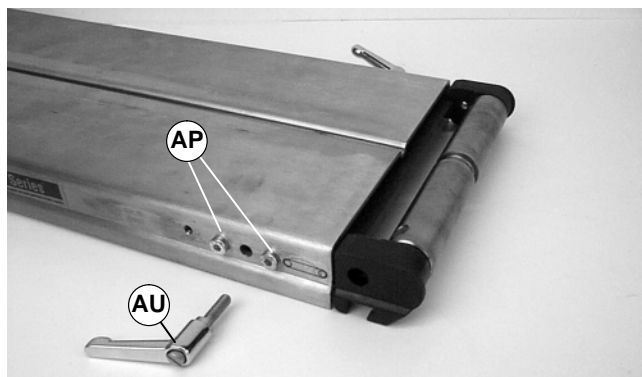

Figure 36
1. Remove handle (AU of Figure 36).
2. Remove two (2) screws (AP of Figure 36).